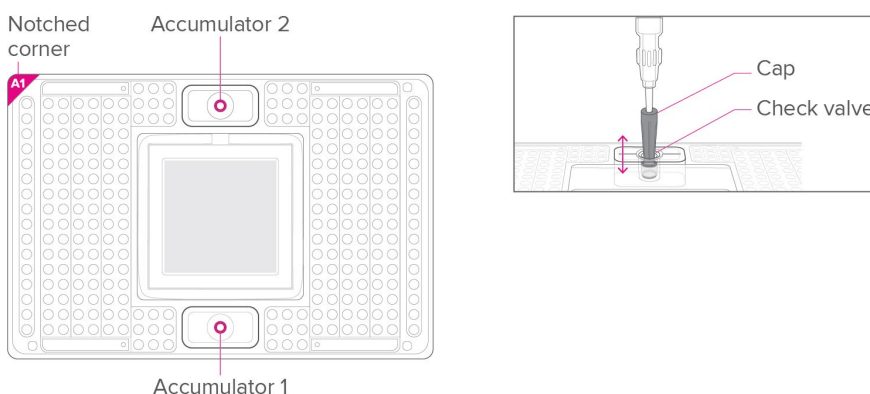

Figure 5. Actuating the check valve in the top accumulator on the 96.16 IFC
- Do not remove the waste sponge from around the IFC center (see Figure 5).